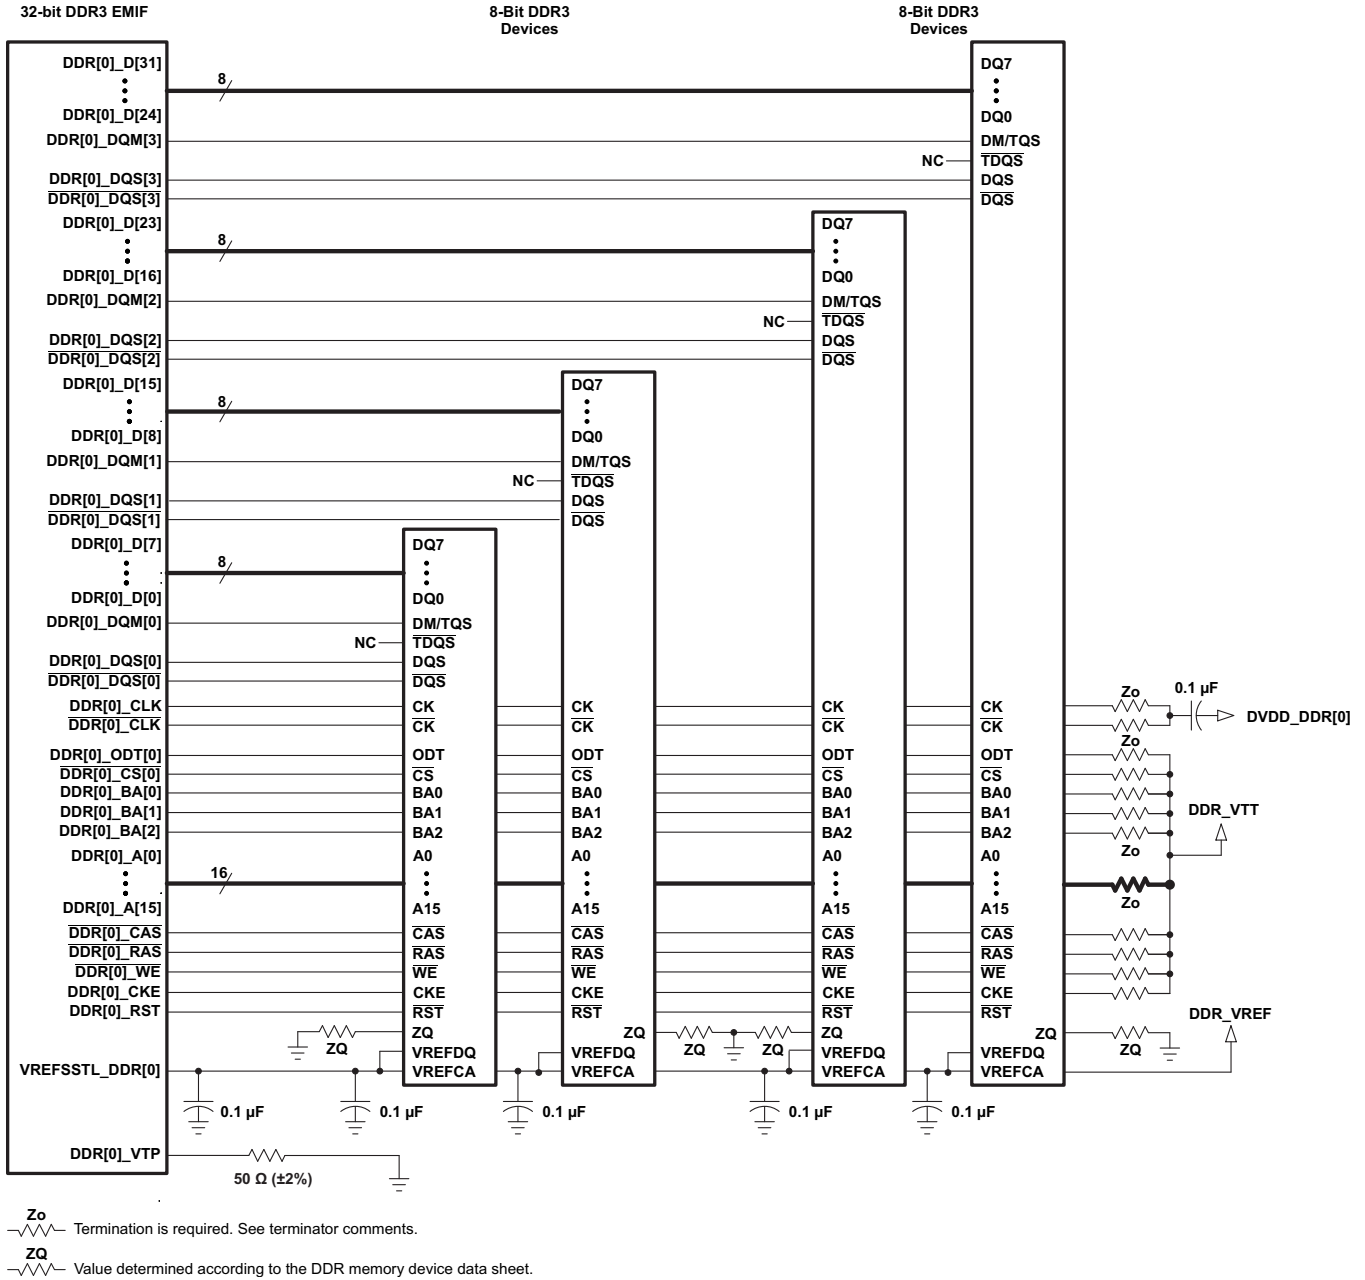

Figure 8-57. 32-Bit, One-Bank DDR3 Interface Schematic Using Four 8-Bit DDR3 Devices
The DDR3 interface schematic varies, depending upon the width of the DDR3 devices used and the width of the bus used (16 or 32 bits). General connectivity is straightforward and very similar. 16-bit DDR devices look like two 8-bit devices. Figure 8-56 and Figure 8-57 show the schematic connections for 32-bit interfaces using x16 devices.
Note that the 16-bit wide interface schematic is practically identical to the 32-bit interface (see Figure 8-56 and Figure 8-57); only the high-word DDR memories are removed and the unused DQS inputs are tied off. The processor `DDR[0]_DQS[2]` and `DDR[0]_DQS[3]` pins should be pulled to the DDR supply via 1-k Ω resistors. Similarly, the `DDR[0]_DQS[2]` and `DDR[0]_DQS[3]` pins should be pulled to ground via 1-k Ω resistors.
(1) DDR3 speed grade depends on desired clock rate. Data rate is 2x the clock rate. For DDR3-800, the clock rate is 400 MHz.
(2) DDR3 devices with higher speed grades are supported; however, max clock rate will still be limited to 533 MHz as stated in Table 8-59 *Switching Characteristics Over Recommended Operating Conditions for DDR3 Memory Controller*.
(3) For valid DDR3 device configurations and device counts, see Section 8.13.3.3, Figure 8-56, and Figure 8-57.